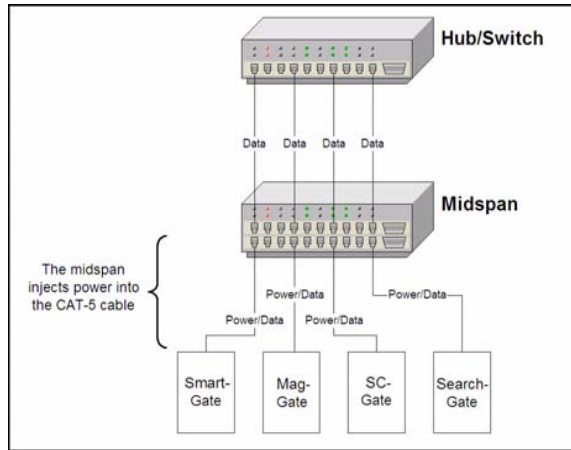

Figure A-3 Hub Connected to BioGate Terminals via a Midspan
- Connect a CAT-5 Ethernet cable between the Ethernet port of the **BioGate** terminal and a midspan power injector unit. An example of the connection is displayed in **Figure A-3**.